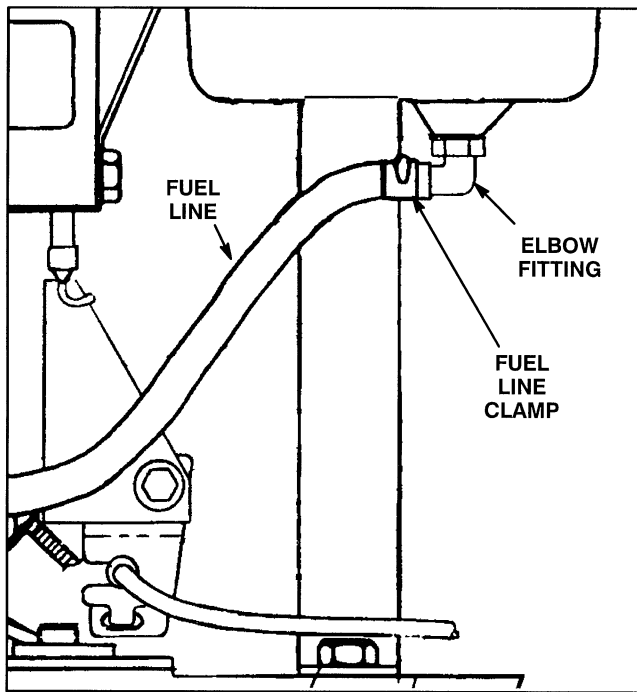

Figure 4
5. Slide end of fuel line onto elbow fitting. Secure in place with fuel line clamp (Fig. 4).